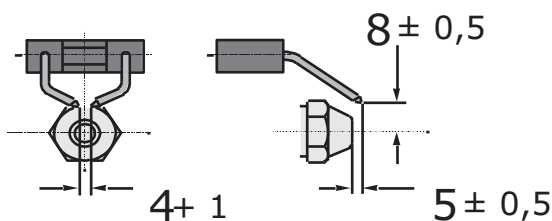

Fig. 508
- Check distance of the electrode tip to the atomizer nozzle (see Fig. 508).
- Check the distance between the electrodes (see Fig. 508).